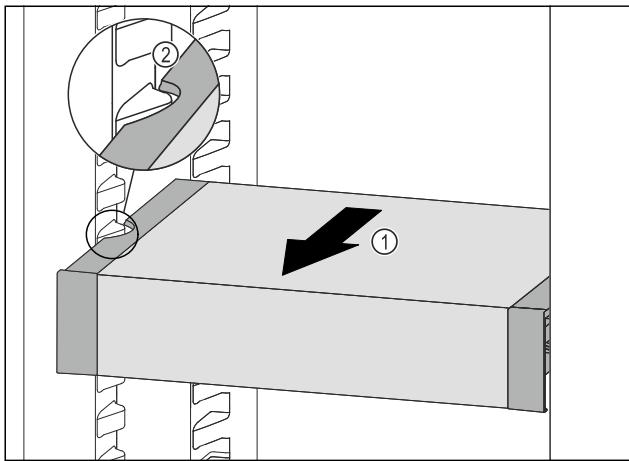

Fig. 126
- ▶ Pull VarioSafe forwards *Fig. 126 (1)* until the recesses in the side of the VarioSafe are at the level of the support rib in the fridge section. *Fig. 126 (2)*